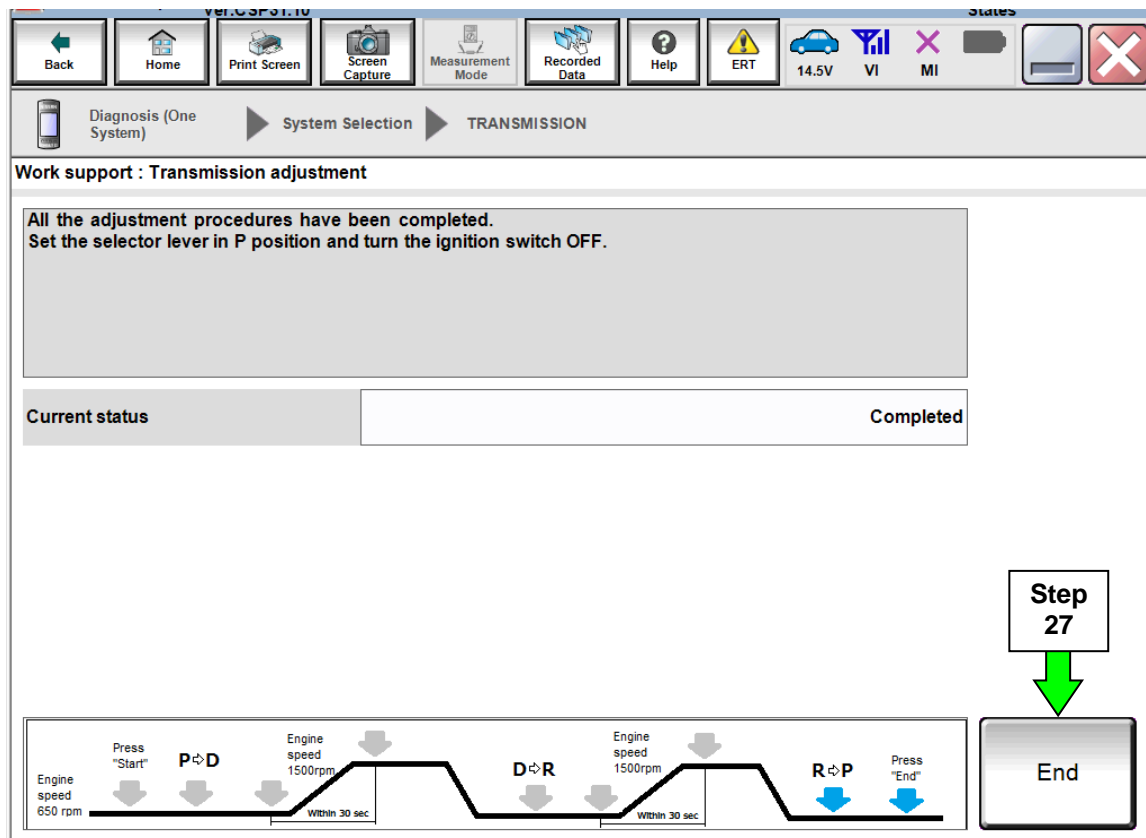

Figure 8B
- When complete the screen in Figure 8B (next page) will display.
25. When the Transmission Adjustment has completed (see Figure 8B), shift the transmission to Park.